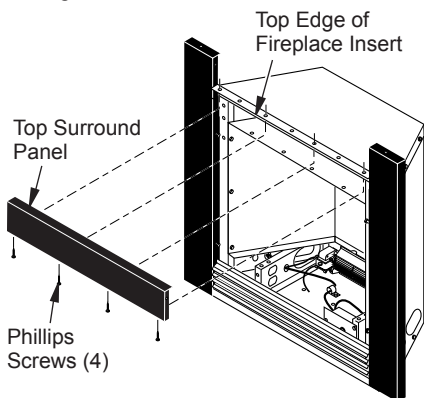

Figure 8 - Attaching Top Surround Panel
- Place top surround panel at top of fireplace insert. Bottom edge of panel will slide under top edge of insert. Align top panel screw holes with those in insert. Install four #8 Phillips screws, do not tighten. See Figure 8.